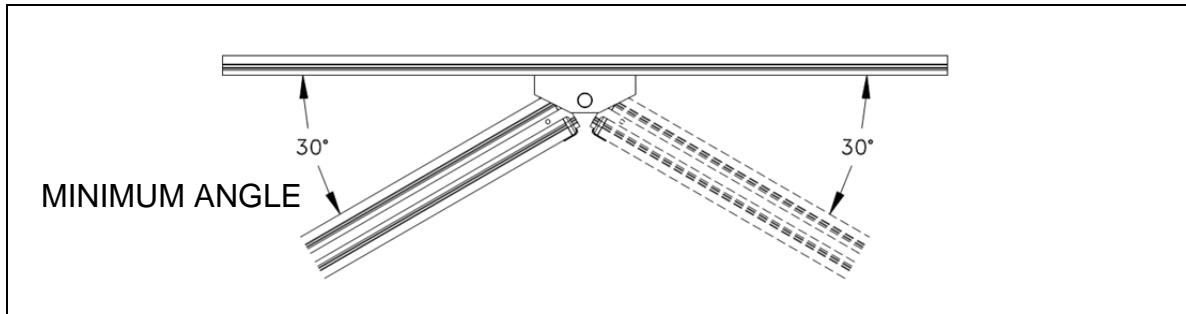

Figure 13
- 4) See the section "Getting Started" for suggested positions. Slide the pivoting rail attachment into its final position. For the 3-post assembly, the bracket must be placed in a way that the rail will not, when turning, generate an angle beyond the maximum allowed (see Figure 13).